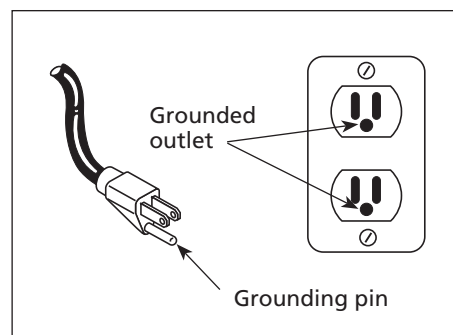

Figure 1 - Grounding method
1. This product is for use on a nominal 120 volt circuit and has a grounding plug that looks like the plug illustrated in Figure 1. Make sure the product is connected to an outlet having the same configuration as the plug. This product must be grounded. In the event of an electrical short circuit, grounding reduces risk of electrical shock by providing an escape wire for electric current. This product is equipped with a cord having a grounding plug. Plug must be plugged into an outlet that is properly installed and grounded in accordance with all local codes and ordinances.